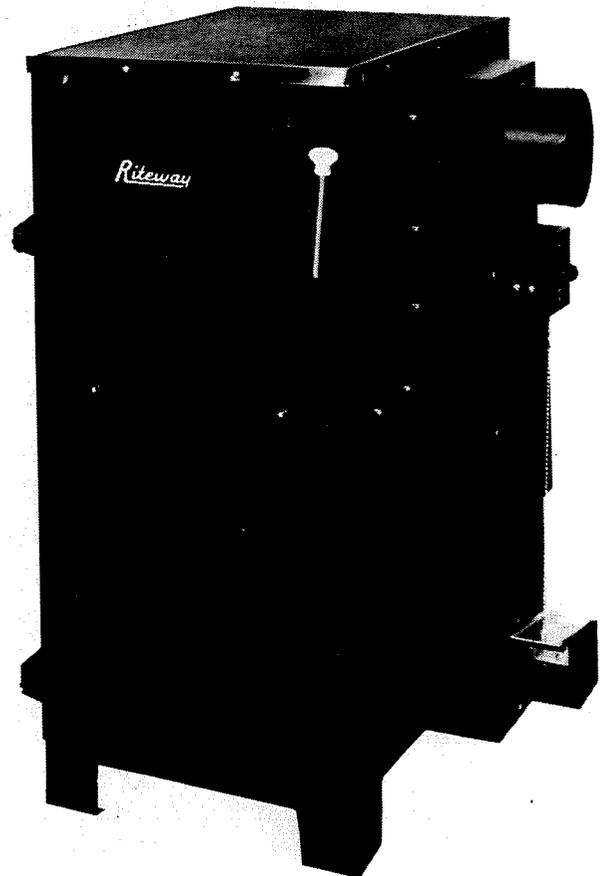

Fig. 28. Riteway Model 37 automatic circulating heater.
10. **Riteway**, Division of Sarco Corp. (manufacturer), P.O. Box 6, Harrisonburg, VA 22801. Each model comes with magnetic damper, Riteheat Regulator, poker, and ash pan. Model 37 (for wood or coal) comes with a grate shaker. The Riteway heaters (Fig. 28 and Table 3) have been traditionally recognized as among the most efficient stoves on the market. This is due to their unique principles of downdraft and secondary combustion. Primary air enters under the firebox and travels upward around the sides, becoming heated in the process. A special secondary-air chamber on the